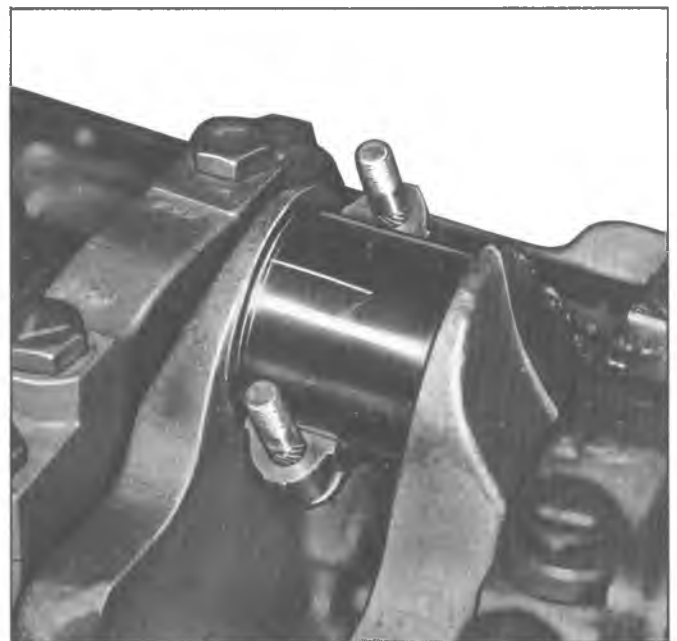

Fig. 43—Gauging Plastic on Crankpin
- a. Place a piece of gauging plastic the full width of the crankpin (parallel to the crankshaft) (fig. 43).